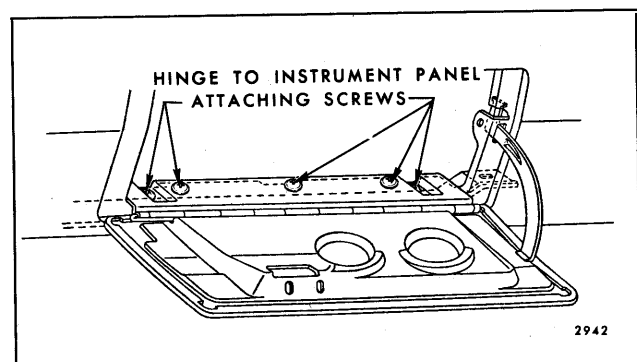

Fig. 5-7—Instrument Panel Compartment Door -
To remove the door assembly, remove attaching screws securing the hinge to the instrument panel (Fig. 5-7) lift door, and rotate counter-clockwise to remove stop from opening in the instrument panel. To install, reverse removal procedure.
2. On all styles, to move the door in or out, loosen hinge to instrument panel screws and position door as desired (Figs. 5-7 and 5-8).
3. On all styles, to move the door right or left, loosen hinge to instrument panel screws and position door as desired (Figs. 5-7 and 5-8).